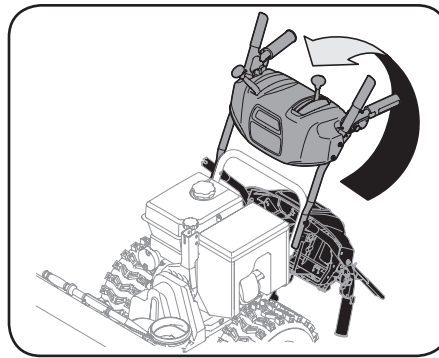

Figure 2-4
5. Pull up on the upper handle, align the upper handle with the lower handle. See Figure 2-4.